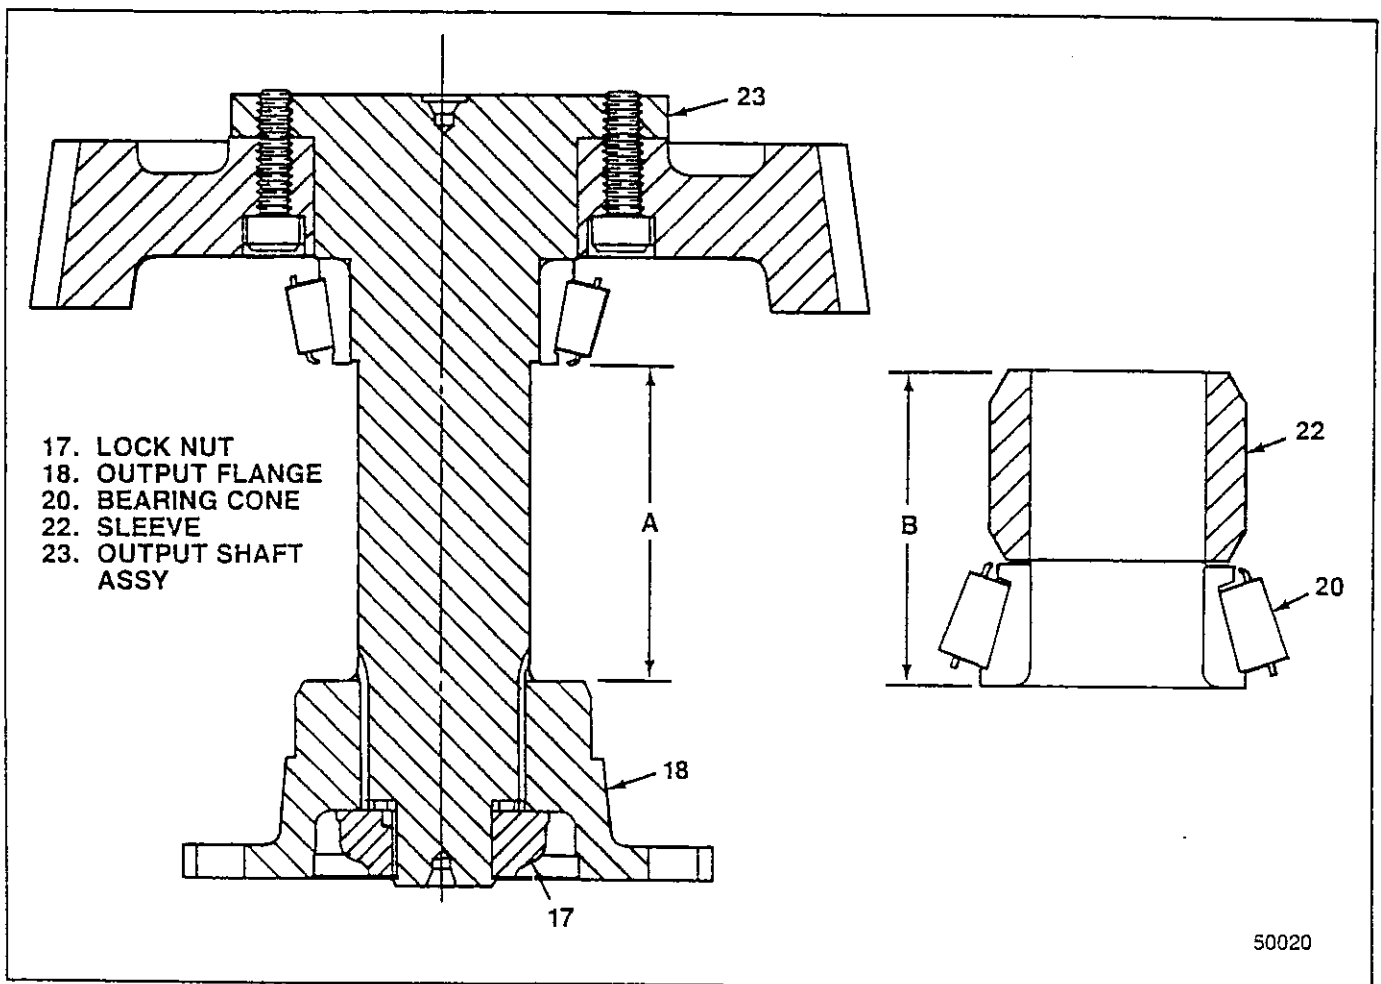

Figure 5-16. Determining Output Shaft Shim Thickness
3. Determine thickness of shim(s) (21) required as follows:
a. Temporarily install output flange (18) and lock nut (17) onto output shaft assembly (23). Holding output flange with coupling wrench T-5005, torque nut to 250 lb-ft (339 Nm). Holding shaft assembly with nut end down, measure and record dimension A as shown in figure 5-16.
b. Stack bearing cone (20) and sleeve (22). Measure and record dimension B as shown in figure 5-16.
c. Calculate T, the thickness of shim(s) (21) required, as follows: